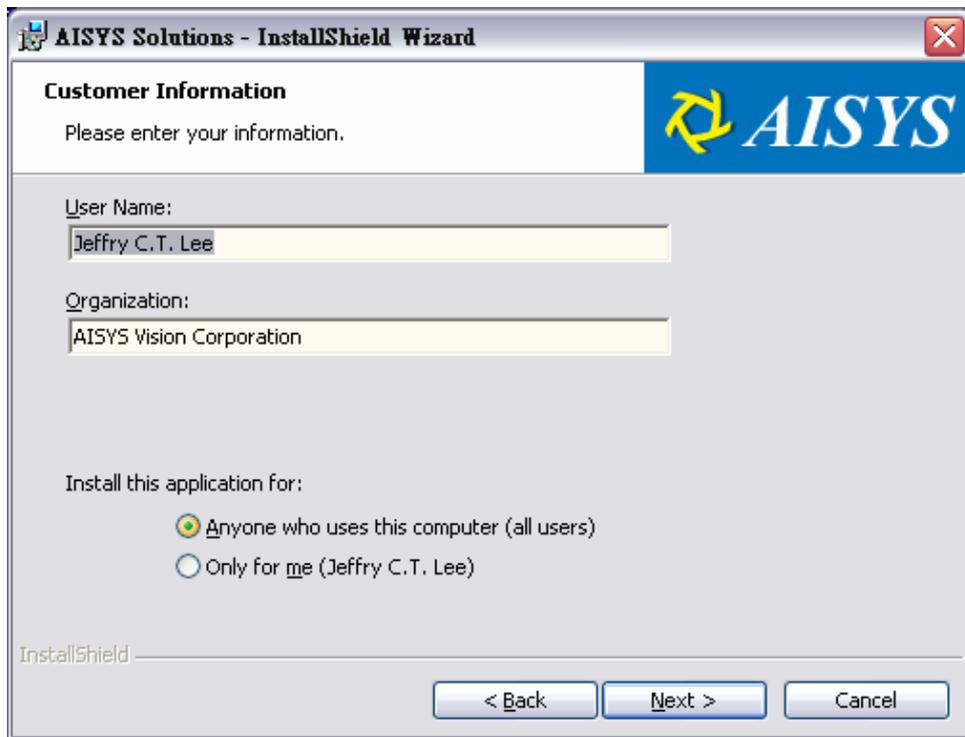

Figure 2.
2. Enter informations of user and organization and press the button “Next” to continue the procedures as shown in Figure 2.